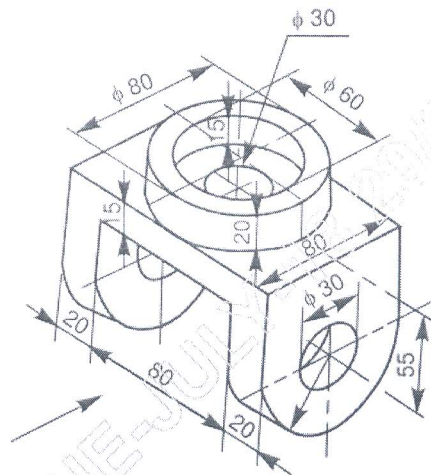

Fig. 1: Fork
2. Draw (i) the sectional view from the front, (ii) the view from above and (iii) the view from the left of a fork shown in Fig. 1. **(20 Marks)**